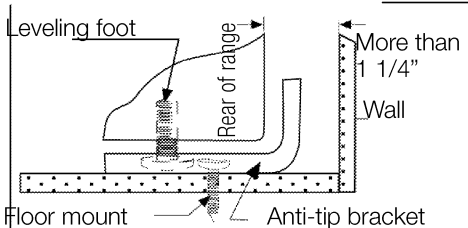

Fig. 3
1. The anti-tip device has to be attached to the floor as shown in Figure 3.